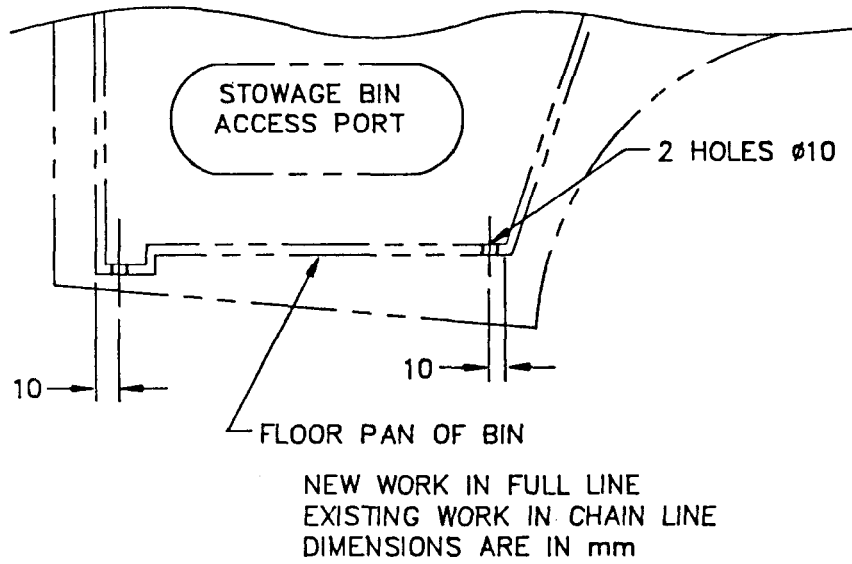

FIG 1 - SIDE VIEW R/H REAR PANEL
- b. Drill two, 10mm diameter holes in each stowage bin as shown in Figs 1 and 2.